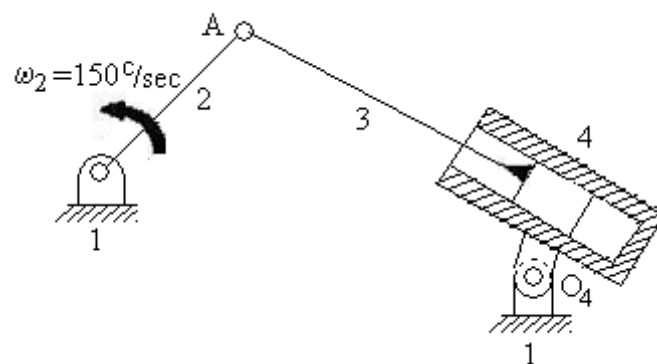

Figure 2:
4. An oscillating engine mechanism is shown in Figure 2 With 2 as the input link, carry out the kinematic analysis, using an analytical method.